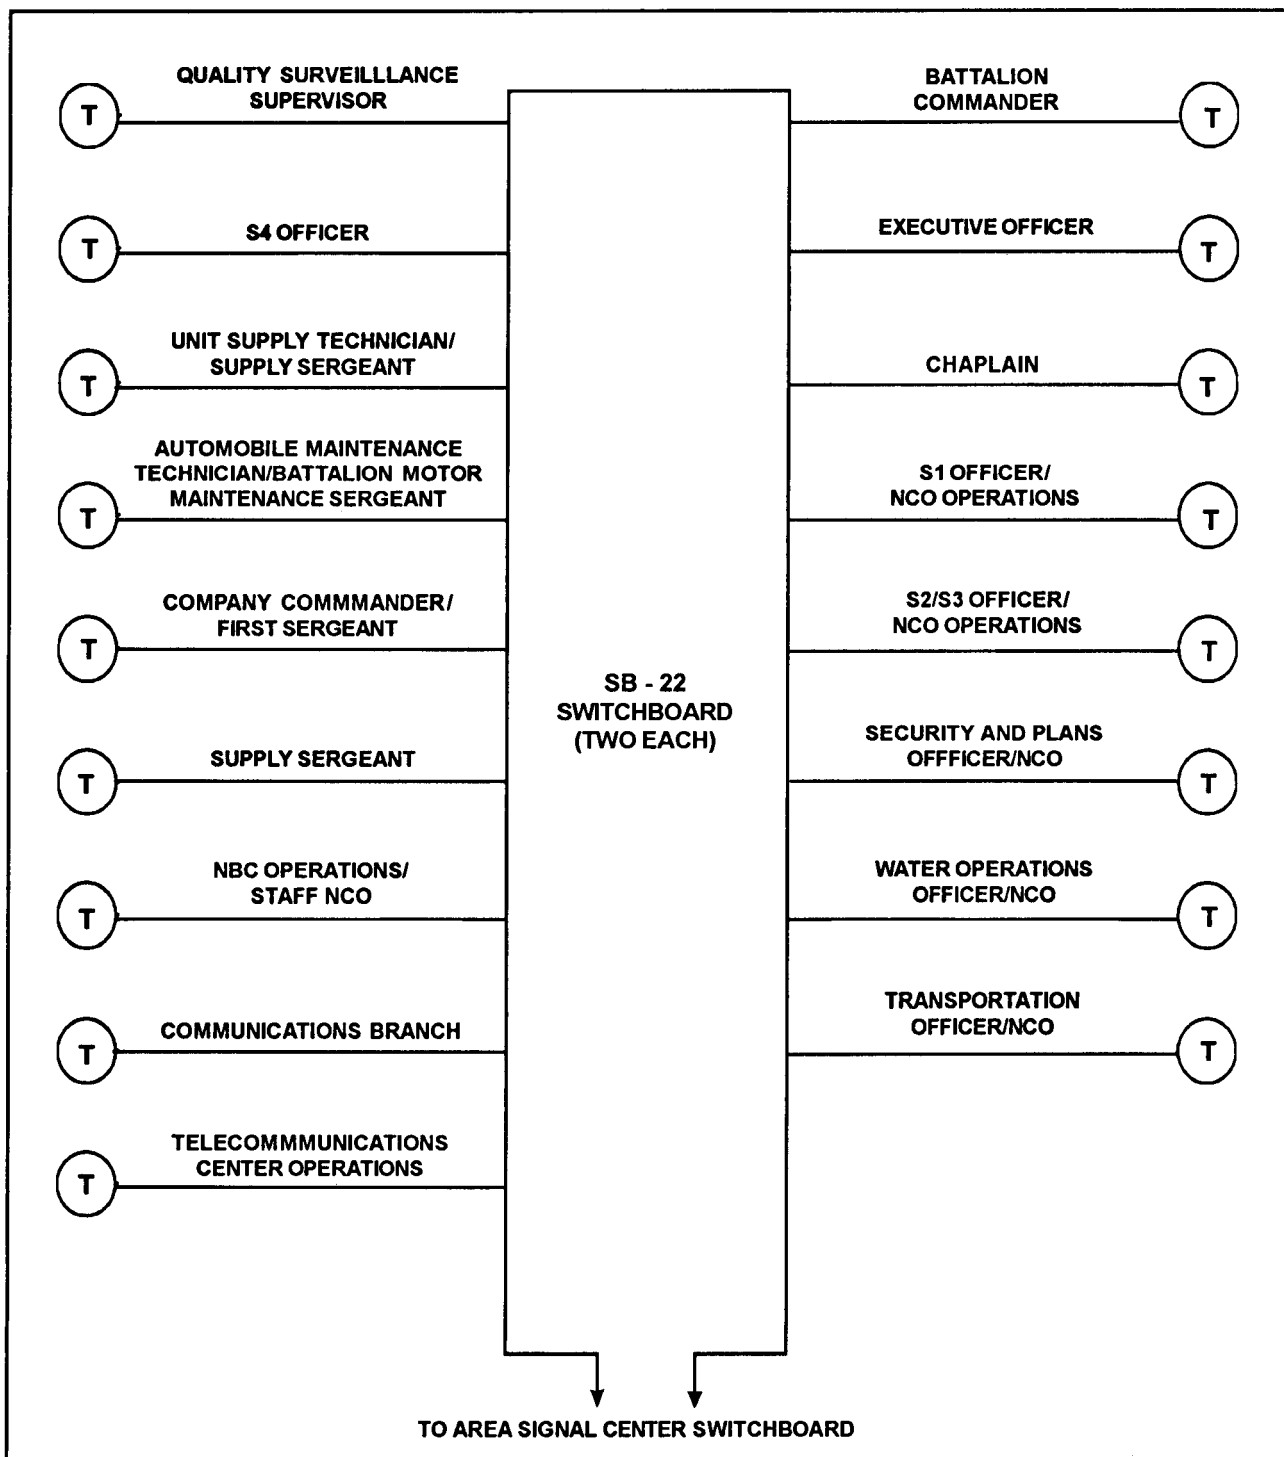

Figure 6-2. Wire net plan, headquarters and headquarters company, quartermaster battalion (water supply)
- Develops a wire net plan. Figure 6-2 shows an example plan.